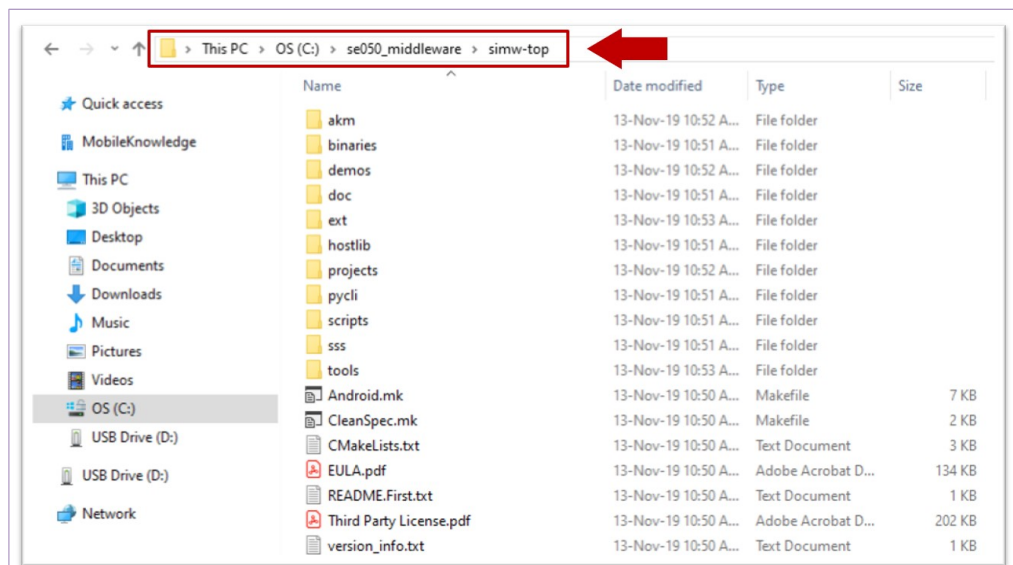

Figure 22. Unzip se050 middleware
3. Unzip the EdgeLock SE050 Plug & Trust middleware inside the **se050\_middleware** folder. After unzipping, you will see a folder called **simw-top** created. The contents of the **simw-top** directory should look as shown in Figure 22: